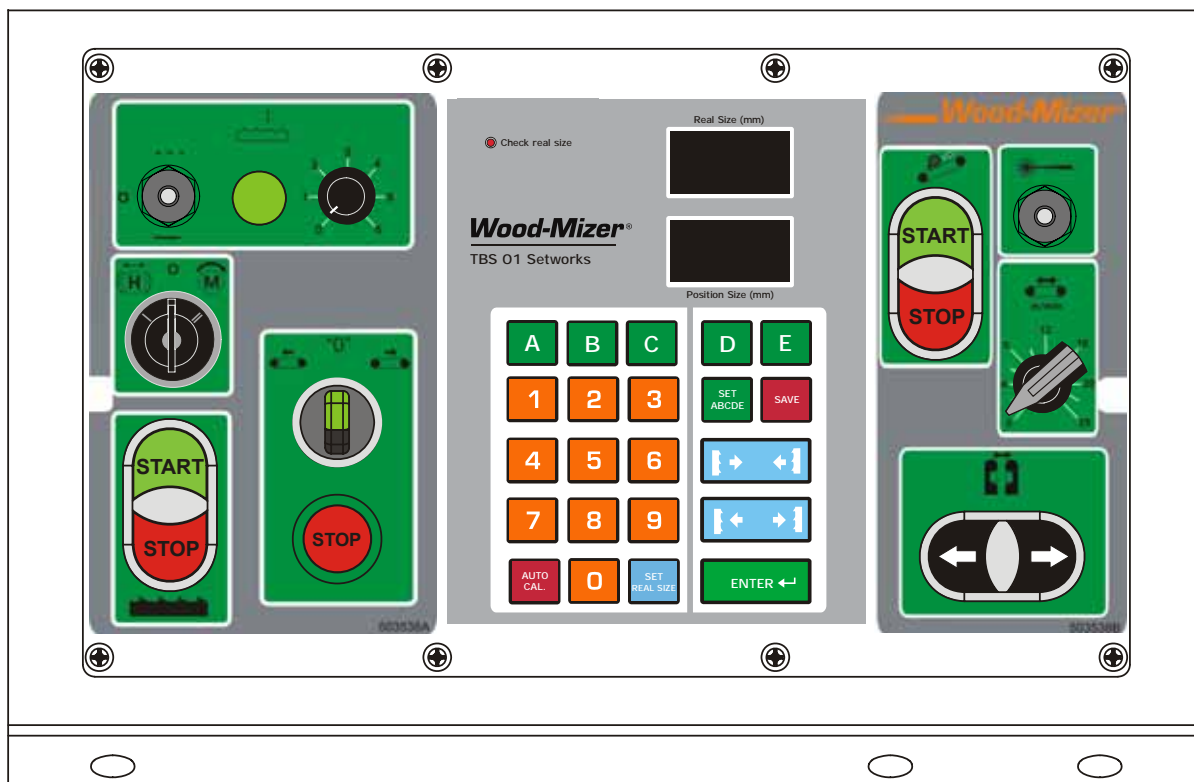

FIG. 2-5
**See Figure 2-5.** Start the blade motors. To do this, turn the key switch to the  position and then push the Blade START button on the control panel (see the figure below). The motors should start and the blades should start spinning.
Turn the Chain Start switch (shown in Figure 2-5) right to start spinning the chain forward. Turn the switch left to start spinning the chain backward. Press the Stop button to stop the chain.